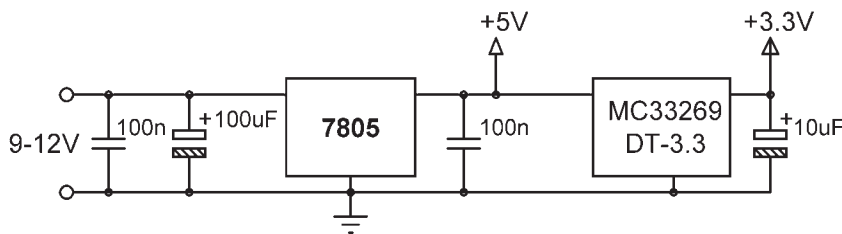

Figure 3b: Power supply of the circuit
- **Power supply:** As shown in **Figure 3b**, a 7805 type 5V regulator is used to provide power to the circuit. The circuit can be operated from a 9V battery in portable applications.